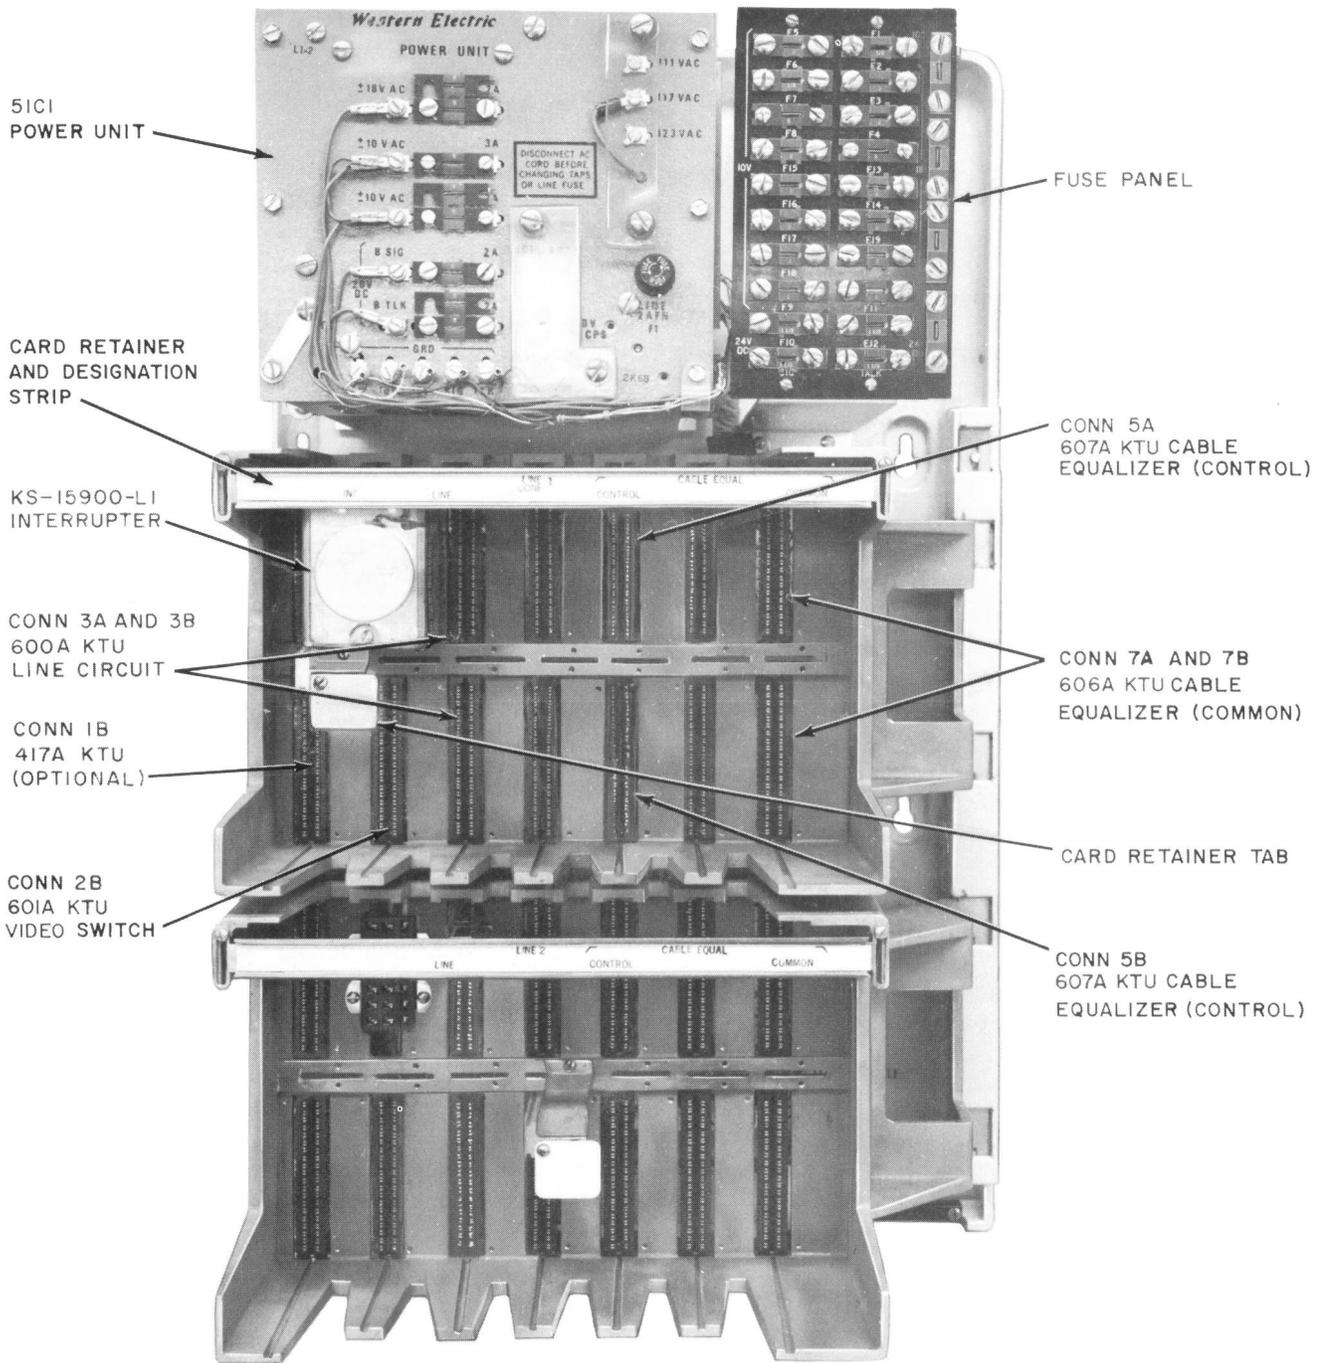
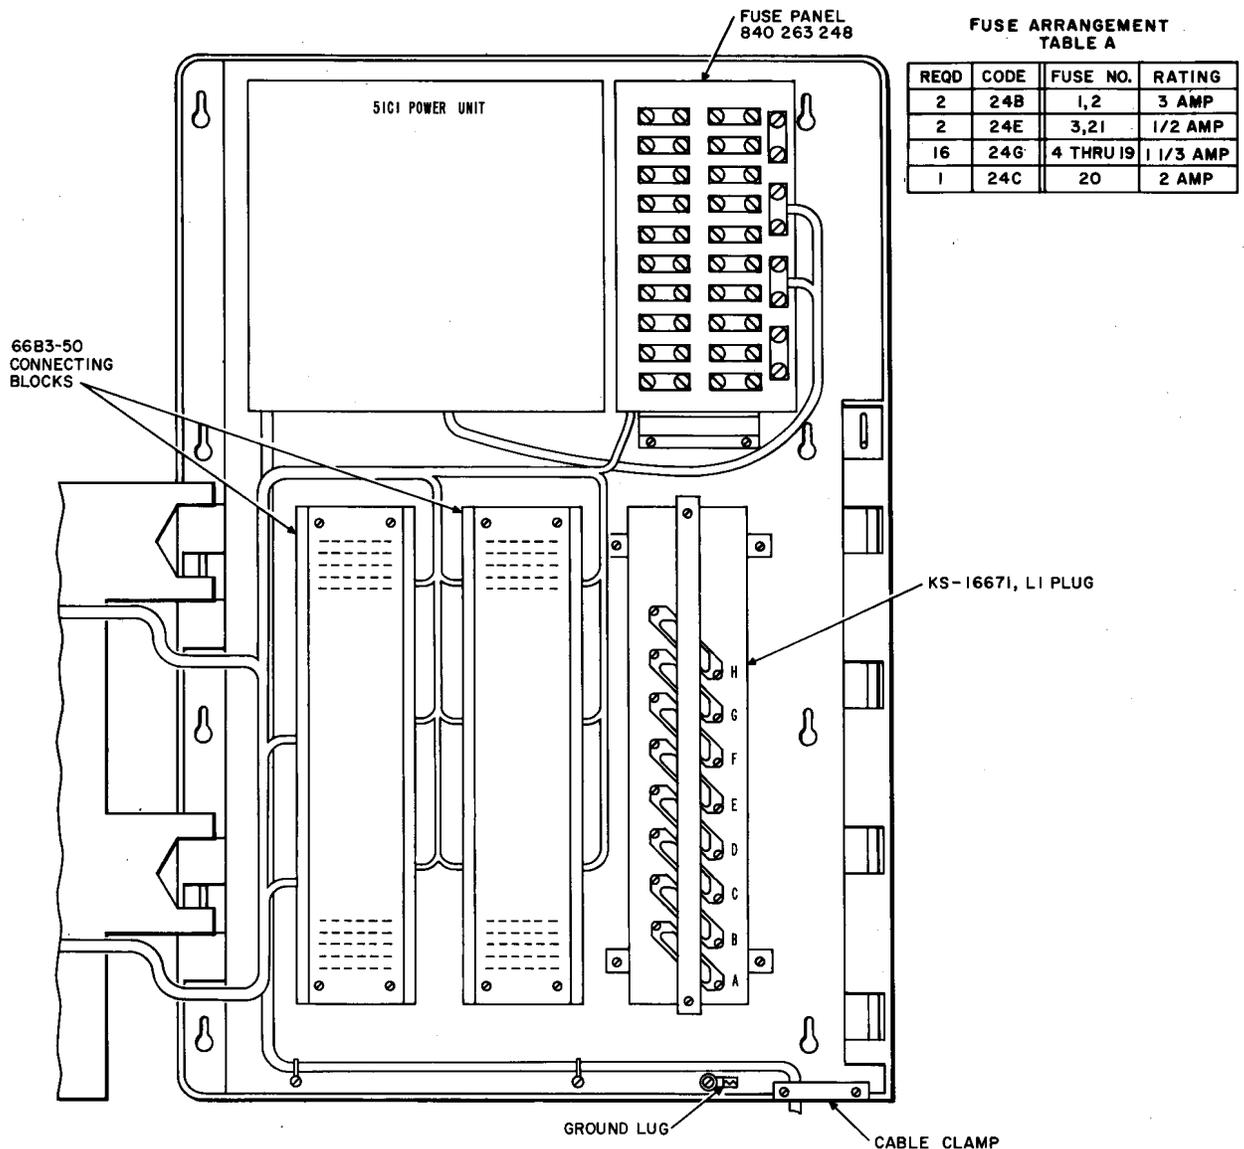

Fig. 1—650A Key Service Unit, Carriers Closed, Circuit Packs Removed
Fig. 2—650A KSU, Carriers Opened
- (1) Use care when unpacking to prevent key service unit from falling out of cover
- (2) Remove cover
- (3) Mount the unit on the wall at the selected location, using the template provided and appropriate fasteners. (Section 463-140-200.)
- (4) Install the necessary straps on the option blocks and KTUs to provide the required wiring options. For 600-type KTU option strapping see Section 518-800-105. For 400-type KTU option strapping see Section 518-215-125.
- (5) Install the KTUs by inserting the plug end into the proper connector(s) (Fig. 3). Make certain card retainer (Fig. 1) is properly secured to keep KTUs in place.
- (6) Mount external 66B4-25 connecting blocks or 184B backboard(s)
- (7) Plug A25B connector cables into the appropriate connectors on KSU and terminate the other end of the cables on external connecting blocks as outlined in Section 518-800-405, 518-800-409, or 518-800-413.
- (8) Terminate a No. 14 ground wire on the ground lug provided in the 650A KSU (Fig. 2). Refer to 518 Division, section entitled Key Telephone Systems, Grounding and Special Protection Requirement.
- (9) Terminate the telephone set cabling, CO/PBX pairs and other wiring on the external connecting blocks.
- (10) Plug the 3-wire line cord into the ac outlet provided.
- (11) Close and latch the carrier assemblies.
- (12) After station tests (using the 136A test set, Section 518-800-501) have been completed, test the 1P2 Key Telephone System operation for services provided.
- (13) Replace and secure cover.